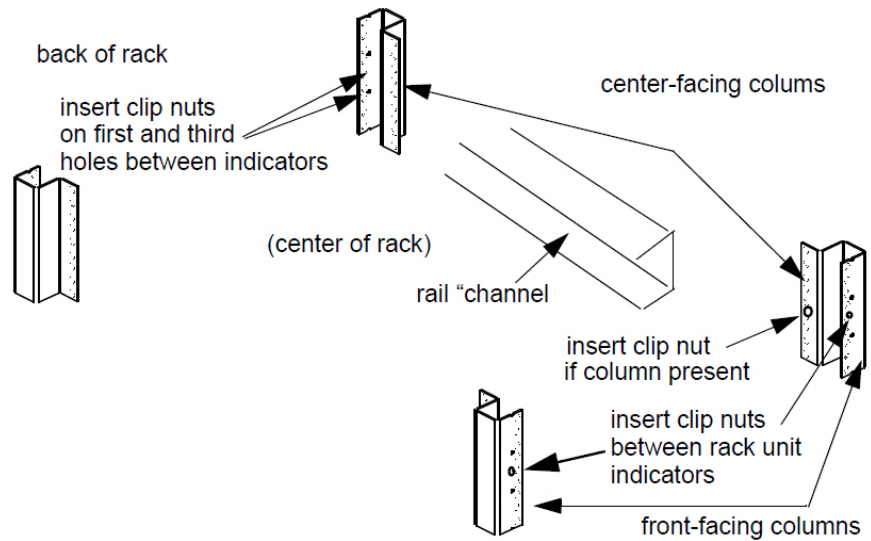

Figure 1-3 Rack Column and Shelf Rail Orientation.
- 1 Select the vertical position in the rack between any two adjacent EIA unit indicators where the L4400 instrument is to be installed. Insert clip-on nuts (item 5) on the three holes between the unit indicators. Place nuts on both the left and right front-facing columns (Figure 1-3).
If center-facing columns with holes are present on the frame, insert a clip-on nut on the hole perpendicular to the center hole on the front facing column. See Figure 1-3.
If the rack has center-facing columns (Figure 1-3), insert a 10-32 pan head screw through the rail opening and clip nut (perpendicular to the front-facing column). Repeat for the rail on the opposite column.